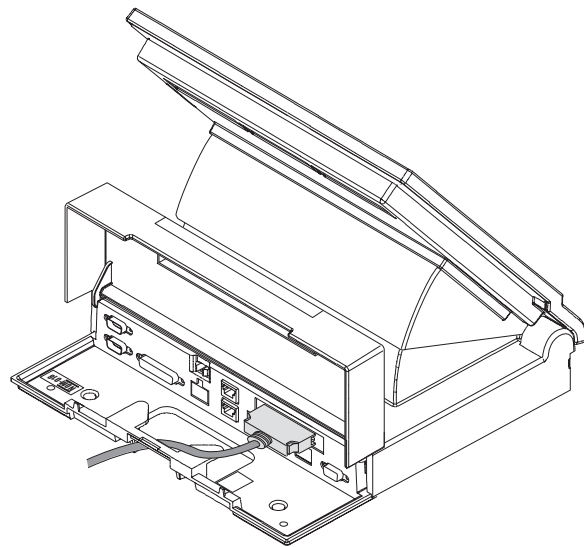

Figure 3-42. Installing the Controller Cable
- 7 Install the expansion feature controller cable. See Figure 3-42.